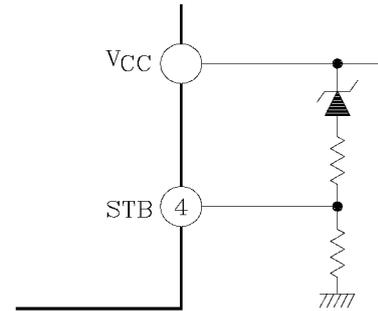

Fig.7
When the stand-by terminal was put to the low level after the ripple rapid discharging circuit was operated ( $V_{CC} \approx 7V$ ) at the time when  $V_{CC}$  was turned OFF, a pop noise may be generated. Therefore,  $V_{CC}$  which makes the Stand-by terminal low shall be set at 8V or above so that (1) the Stand-by terminal is put at the low level and (2) the ripple rapid discharging circuit is turned ON when  $V_{CC}$  is turned OFF (in order of (1) and (2)). An example of application is shown in (Fig. 7).